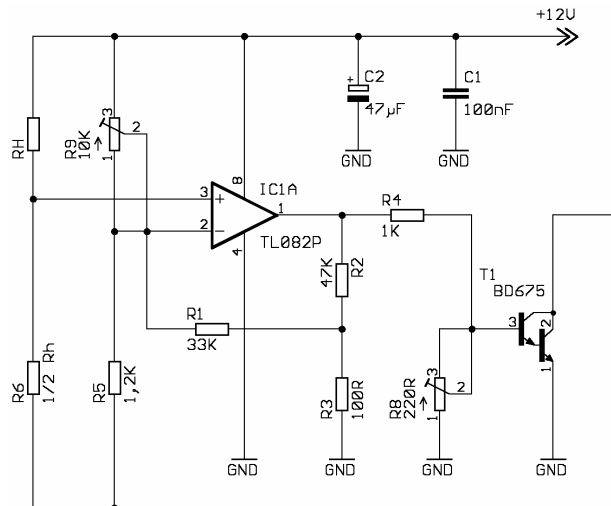

Figure 1: Analogue heating controller
- with R9 (Figure 1) the heating temperature is adjusted
- with R8 (Figure 1) the readjustment is affected